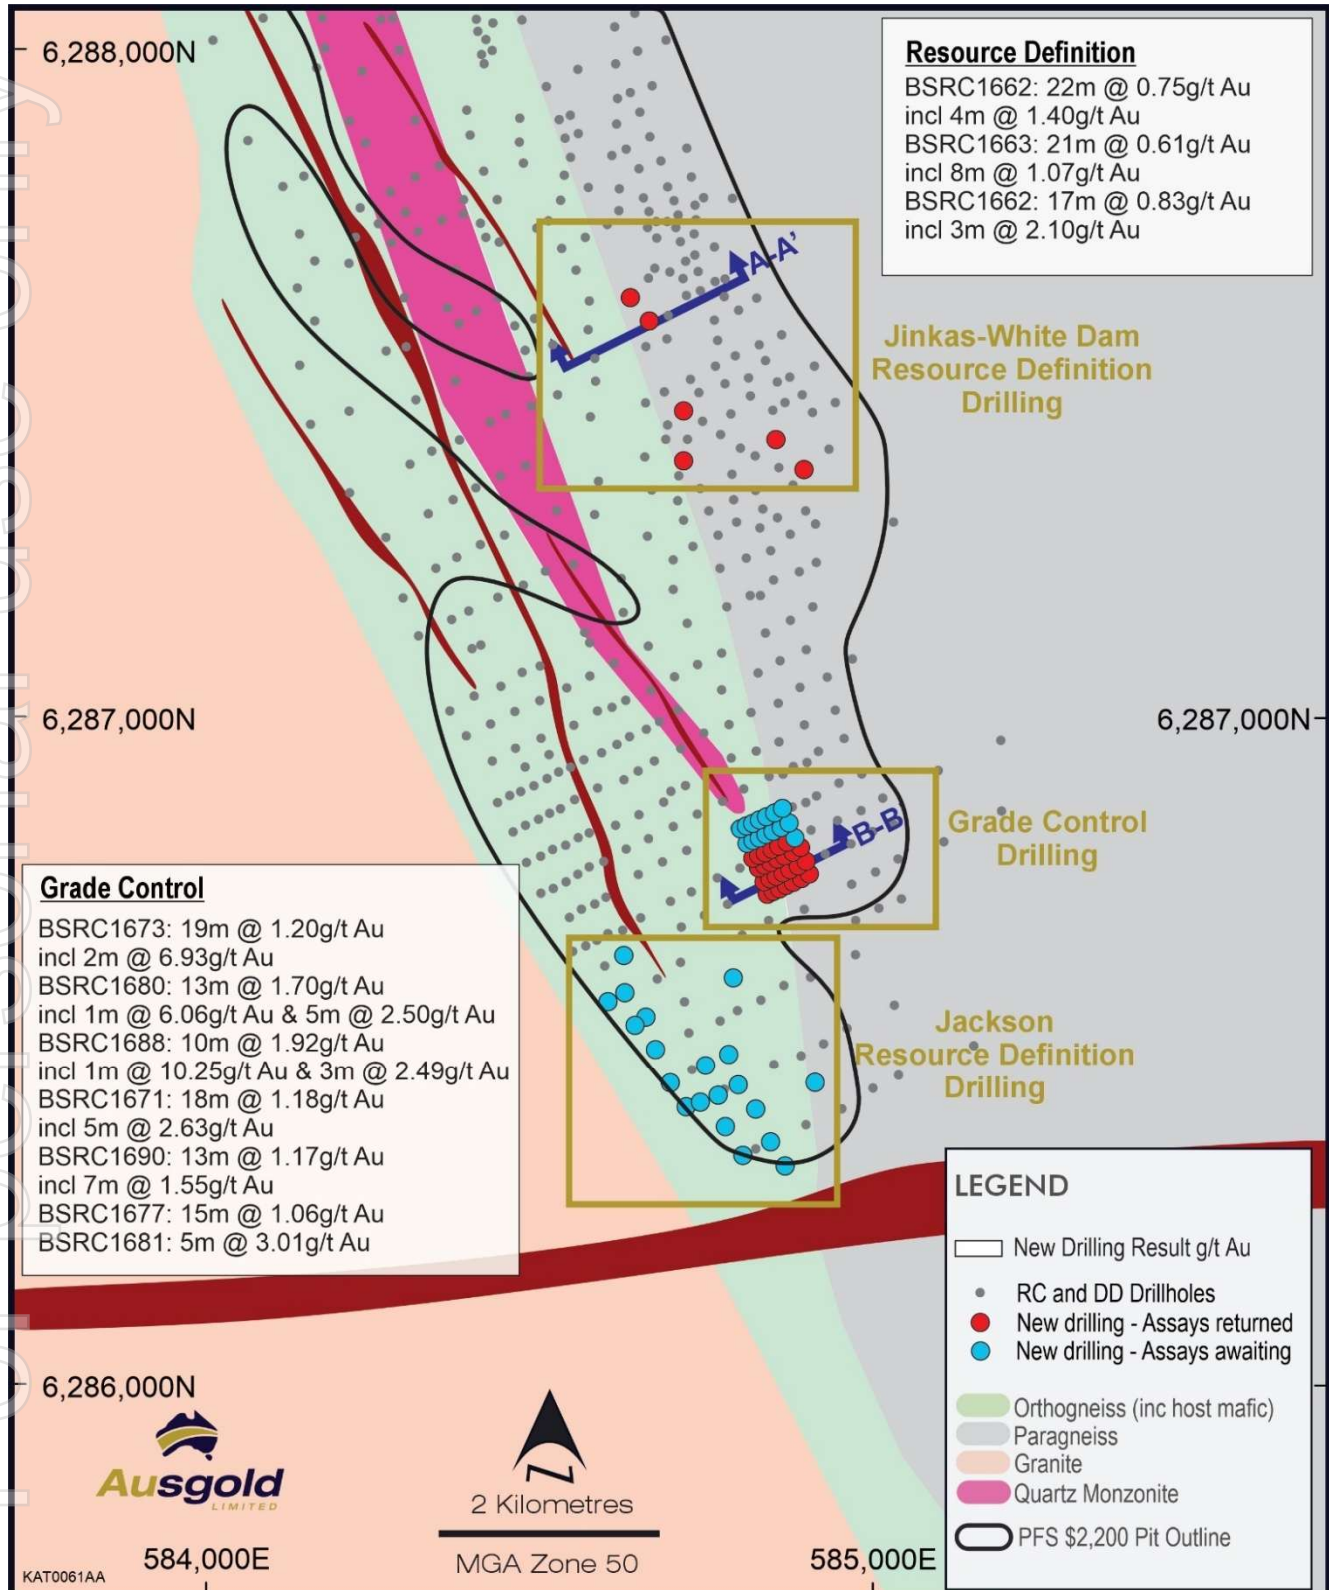

Figure 2 – Geological map of the southern portion of the Central Zone displaying new drilling relative to the PFS pit outline2
- A program of resource definition drilling along the Jackson Trend has been completed (Figure 2), comprising 20 holes for 1,092m. Assay results are pending.